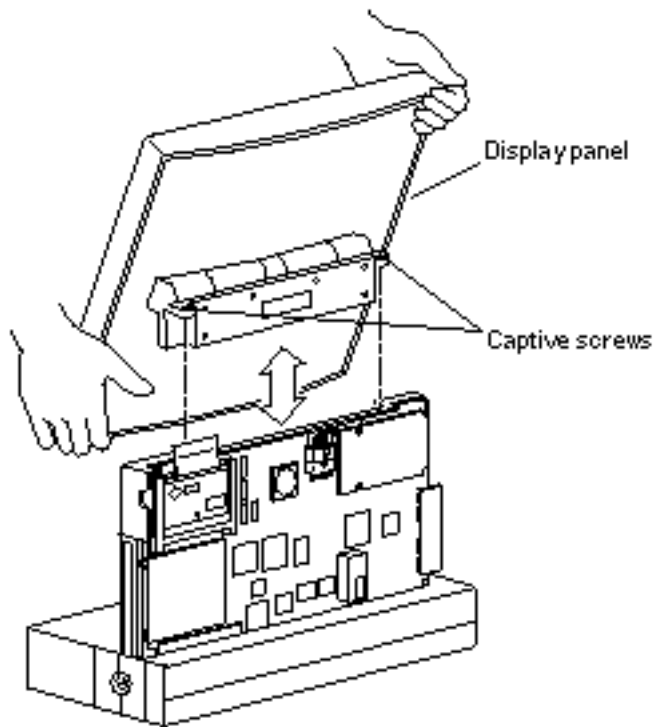

Figure 7-24 Replacing the Display Panel
1. Hold the display panel with both hands, position it as shown in Figure 7-24, and push it down until the connector sits in the socket.